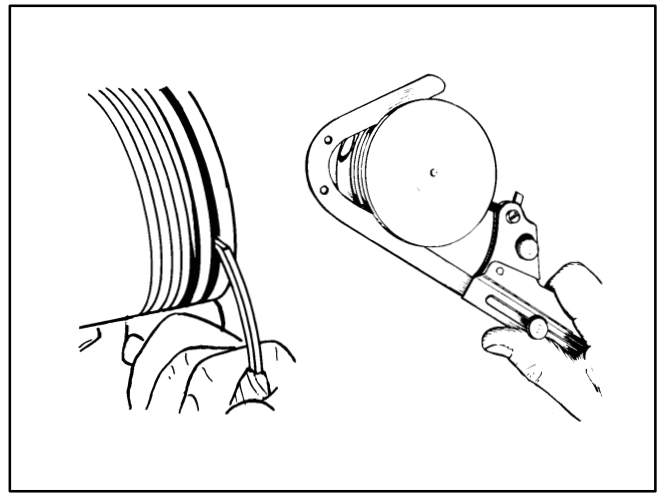

FIGURE 43. PISTON RING GROOVE CLEANER
7. Remove deposits from the piston surfaces with an approved cleaning solvent. Clean the piston ring grooves with a groove cleaner or with the end of a piston ring filed to a sharp point (Figure 43). Take care not to remove metal from the sides of the grooves.